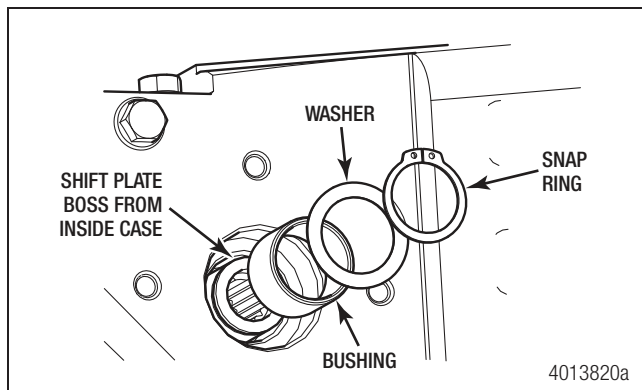

Figure 4.36
1. With the electric shift unit removed, remove the snap ring and washer from the boss at the end of the shift plate. Figure 4.36.